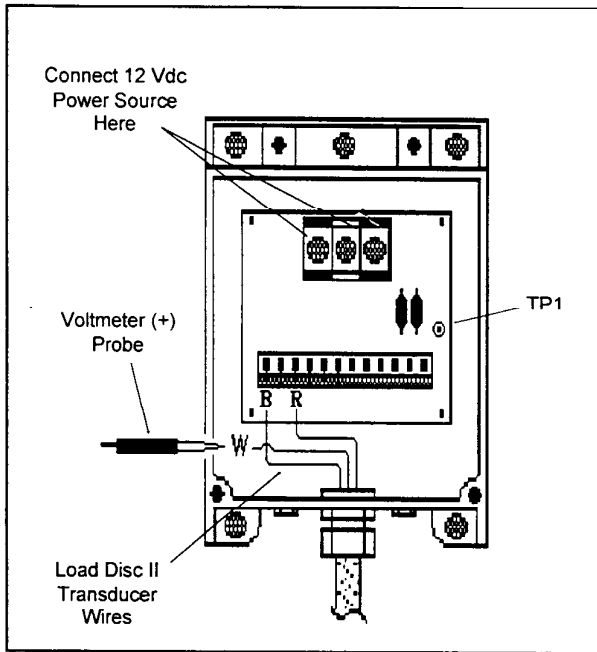

Figure C-9. Connecting 12 Vdc Excitation Voltage and Voltmeter to the Junction Box
**Plastic Junction Boxes.** Connect a 12 Vdc excitation voltage source to the R (red) and B (black) terminals on terminal block TB1: positive (+) lead to red terminal, negative (-) lead to black terminal (Figure C-9).